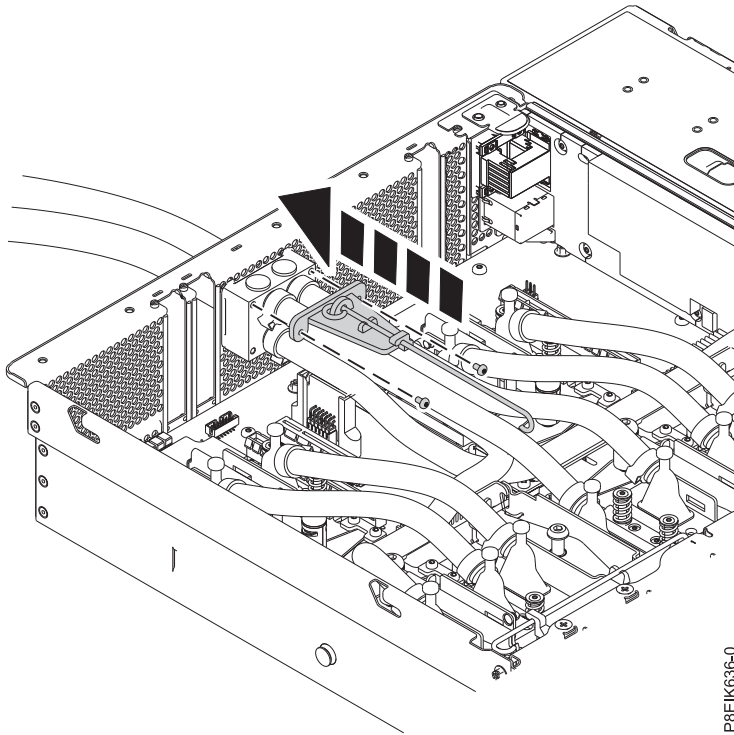

Figure 46. Replacing the rear service clip
10. Replace the rear cold plate service clip and secure it with its two screws as shown in Figure 46.